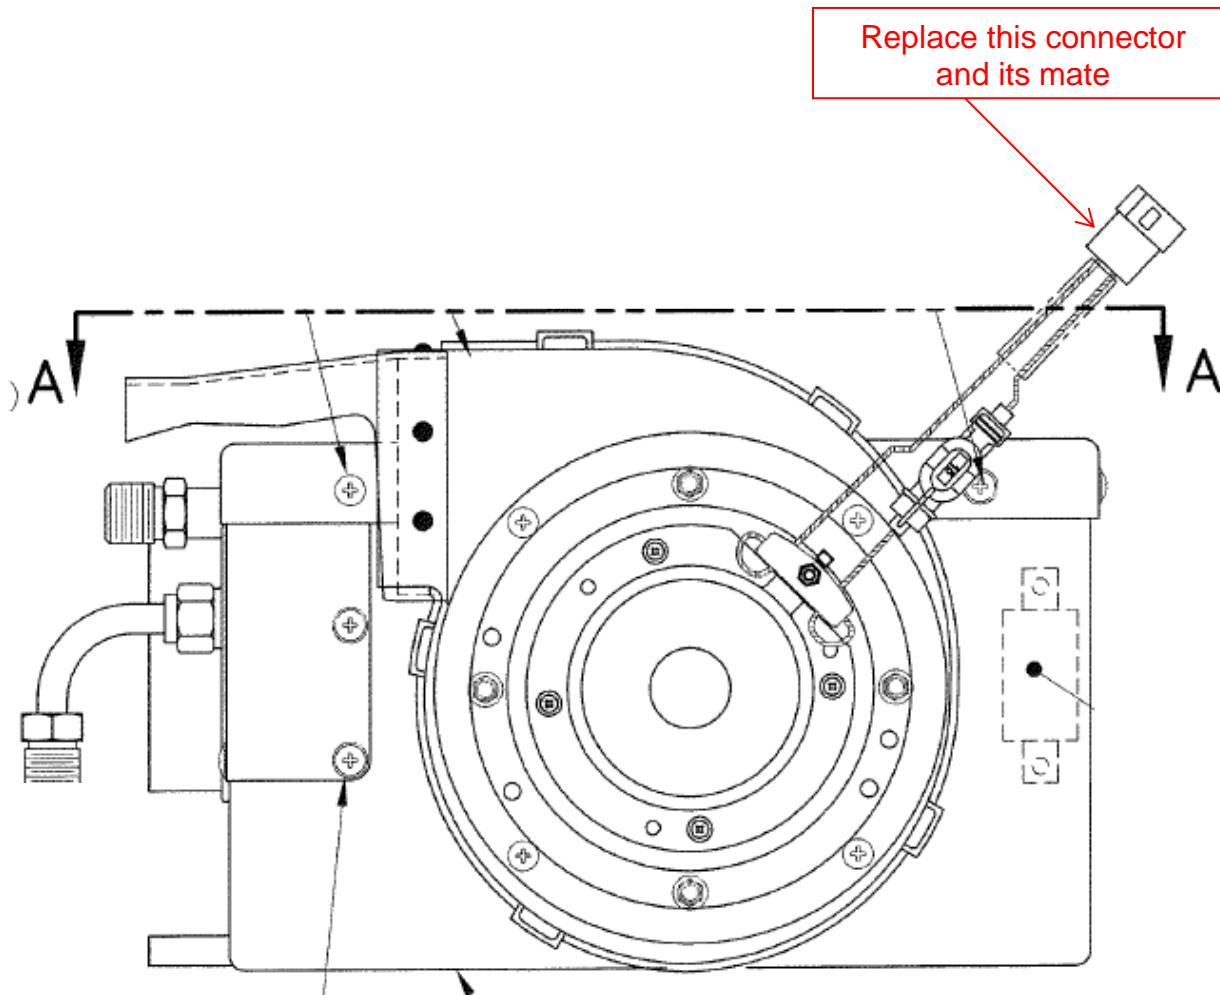

Figure 1 Aft Evaporator Blower Assembly (blower configuration may differ slightly. Connector is used on all 427 aft evaporators)
2. Locate the 2 pin connector (see Figure 1) and mark the white wires "Red" and "Black" as appropriate. It may be necessary to remove a portion of the heat shrink covering on the harness.
3. Cut the wires on the back side of the connector shown in Figure 1 and its mate. Remove minimal wire length. Remove and discard the connectors w/pins & sockets.